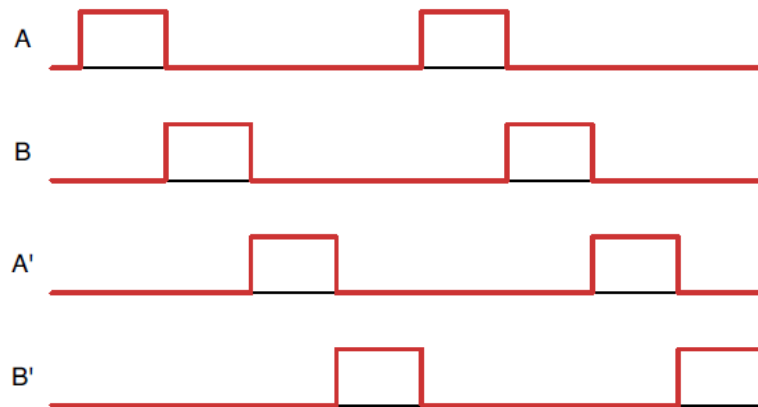

Fig.3.15 Drive sequence in full step mode
- Figure 3.15 shows what the signaling sequence looks like when controlling a stepper in this mode.